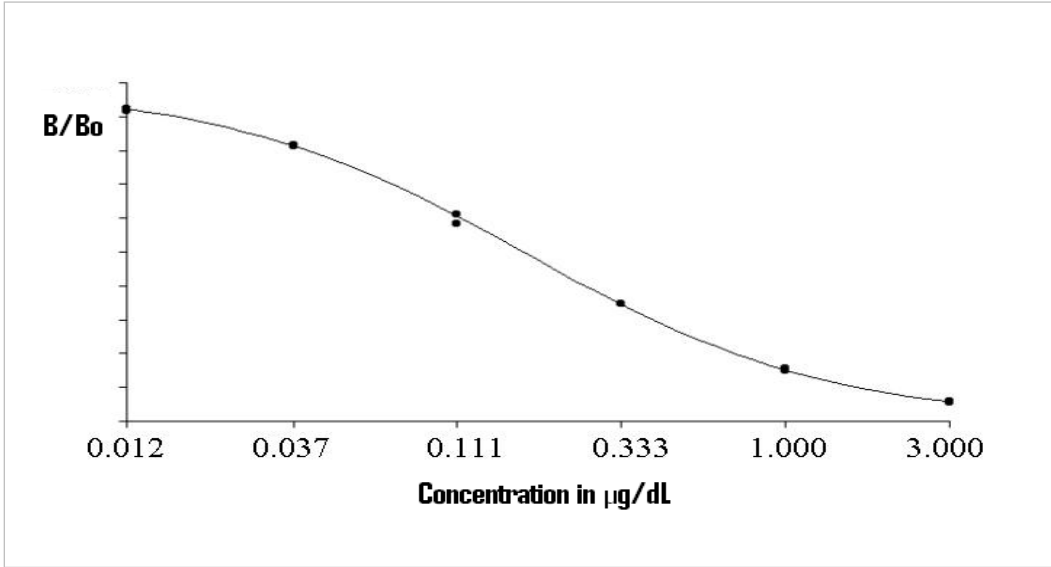

Figure 9. Typical Cortisol standard curve, 4-parameter sigmoid minus curve fit.
In order to determine the concentrations of analyte in samples, several known concentrations of analyte must be analyzed as part of each test plate as standards (or calibrators). Results from these wells are used to establish a calibration curve, from which the results for the unknown samples can be found. The amount of color, or optical density (OD), measured for each sample and standard (B) is divided by the OD of a sample with no analyte present (B_0), and the ratios (B/B_0) plotted against the concentration of analyte (on a logarithmic scale). The result is an inverse S-shaped curve (Figure 9). The process of fitting a curve to the data points from the standards is most accurately accomplished by using specialized computer software in conjunction with the plate reader. Salimetrics advises using a 4-parameter sigmoid minus curve fit.